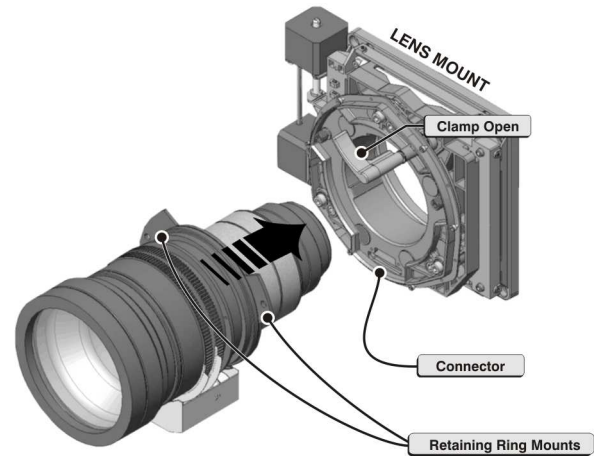

Figure 2-6 Insert Lens
1. Turn the lens clamp to the OPEN position (**Figure 2-6**).
3. Orient the lens so the lens retaining ring mounts line up with the lens mount. Fully insert the assembly straight into the lens mount opening without turning. (**Figure 2-6**). Magnets, mounted inside the lens mount, help to properly guide the lens. When you hear a clicking sound it indicates the lens has made contact with the magnets. These magnetic guides ensure the lens is properly seated inside the mount, that the aperture is orientated correctly and that the connector for motorized zoom and focus is properly connected.